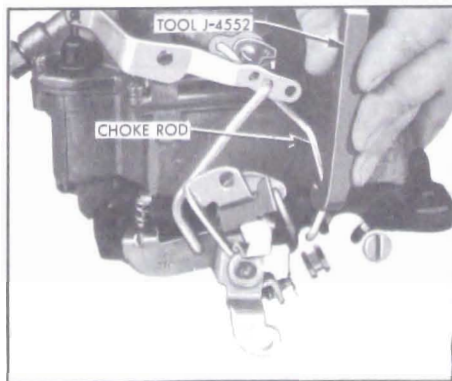

Figure 3-72—Adjusting Fast Idle Cam
2. If choke valve clearance is not correct, bend choke rod as required to obtain this clearance using Tool J-4552. See Figure 3-72.